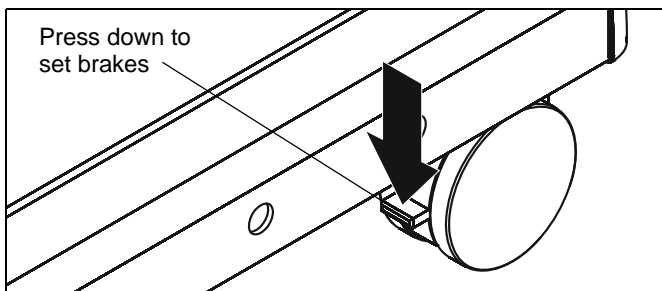

Figure 8
**CAUTION:** Before attaching display to cart set the brakes on the back wheels by pressing down on the tab. (See Figure 8)